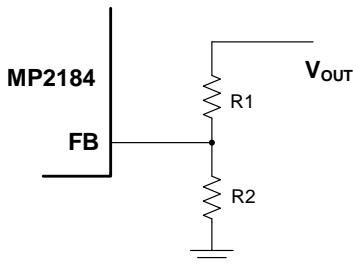

Figure 7: Feedback Network
The external resistor divider sets V_{OUT} (see Figure 7). Select the feedback resistor (R1) that reduces the V_{OUT} pin's leakage current (typically between 100Ω and $200k\Omega$). There is no strict requirement on the feedback resistor. Select R1 to exceed $10k\Omega$. R2 be estimated with Equation (2):
Figure 7 shows the feedback circuit.